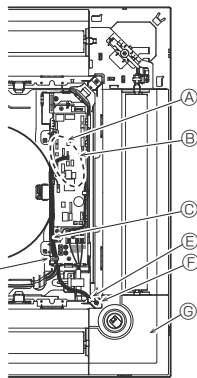
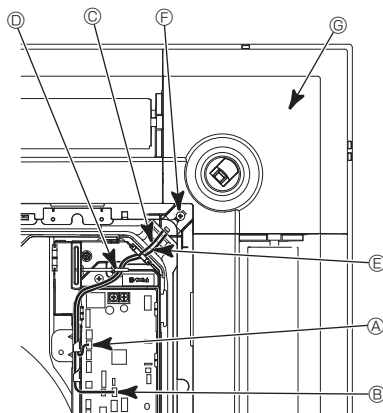
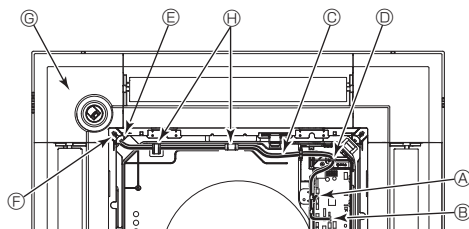

Fig. 6-10
Fig. 6-11
Fig. 6-12
#### 6.5.1. Standard position (Fig. 6-10) and position ② (Fig. 6-11)
- Take the lead wires CN4Z (white, 4-pole) and CN5Y (white, 5-pole) of the 3D i-see Sensor corner panel ④ from the side of the electrical box on the unit and make sure to connect them to the connector of the controller board.
- The 3D i-see Sensor corner panel should be fixed onto the grille ① with screw ③.
#### 6.5.2. Position ① (Fig. 6-12)
[Fig. 6-10] [Fig. 6-11] [Fig. 6-12]